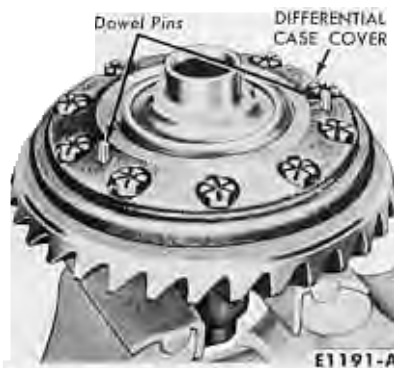

FIG. 27—Differential Cover Installation
10. Place the differential case cover on the case (Fig. 27). Start the ring gear bolts.